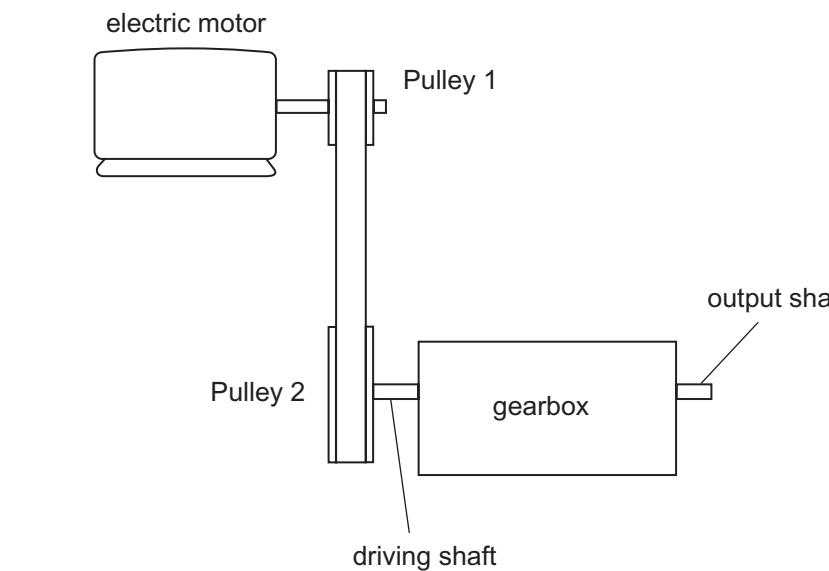
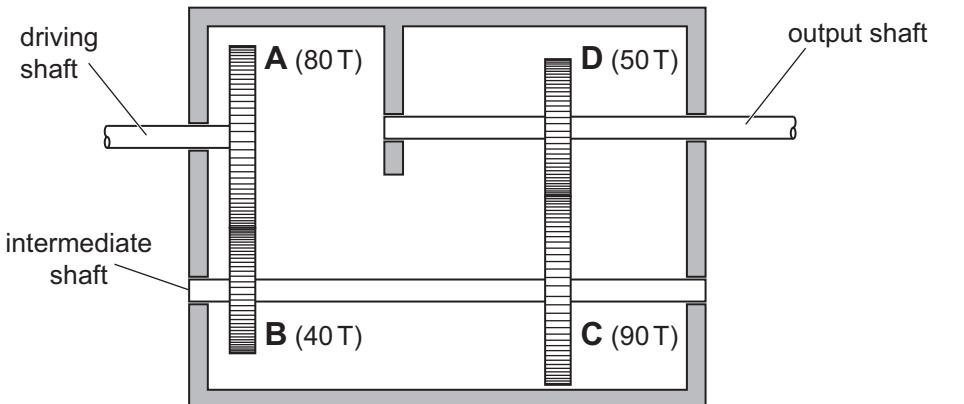

Fig. 7
Fig. 8
- (iii) Look at **Fig. 7**. It shows a gearbox that is driven by an electric motor through a belt and pulley system.
- (d) Look at **Fig. 8**. It shows the internal layout of the gearbox in **Fig. 7**. The number of teeth (**T**) are shown on the gear wheels. The driving shaft rotates at 800 rev/min.
- (i) Write down the type of gear train shown in **Fig. 8**.
- (iv) The gearbox in **Fig. 8** is to be changed to give an output speed of 3200 rev/min by changing wheels **C** and **D** only. Gear wheels 30T, 45T, 60T and 75T may be used.